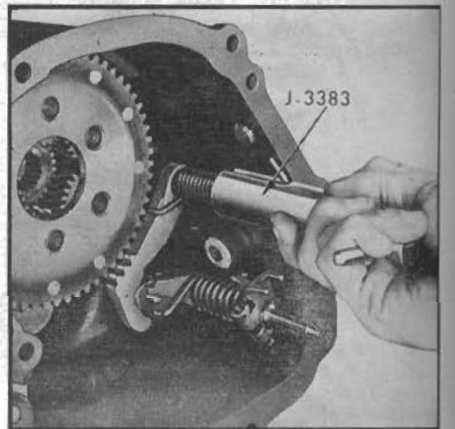

Fig. 12 Removing parking lock pawl spring
22. Using tool J-3383, Fig. 12, engage parking lock pawl spring and rotate spring to unhook end from case. Remove spring and parking lock pawl.